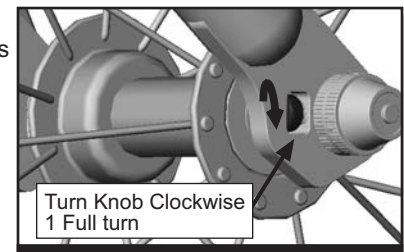

Fig. 5 Right Adjust Knob
- b. Turn the right knob clockwise 1-full turn, as shown in Fig. 5, thereby pushing the right side of the wheel forward. Retighten quick release.